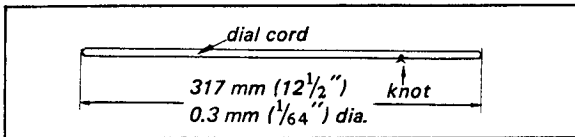

Fig. 2-7. Dial cord
2. Make a loop of the dial cord as shown in Fig. 2-7.